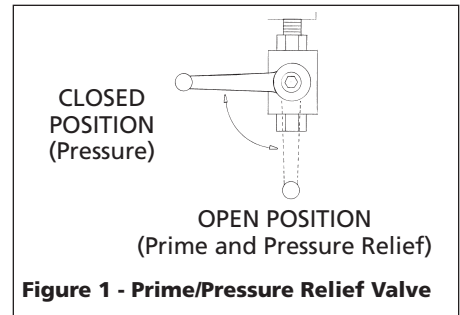

Figure 1 - Prime/Pressure Relief Valve
- Prime/Pressure Relief Valve (Prime/PR Valve, Figure 1). Used to relieve pressure from gun, hose and tip and to prime the unit when in OPEN position.
5. Open the prime valve to the open - "Priming Position". This will allow for an easy start. Refer to Figure 1 on page 4.
10. After the engine is warm, gradually close the choke lever, increase the RPM of engine slightly by moving throttle to the left. Close the prime valve. Refer to Figure 1.